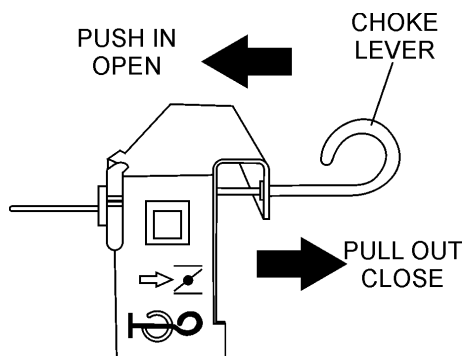

Figure 20. Choke Lever
2. Place the choke lever (Figure 20) in the **CLOSED** position if starting a cold engine.
3. Place the choke lever (Figure 20) in the **OPEN** position if starting a warm engine or the temperature is warm.
6. If the engine has started, slowly return the choke lever (Figure 20) to the **OPEN** position. If the engine has not started repeat steps 1 through 6.